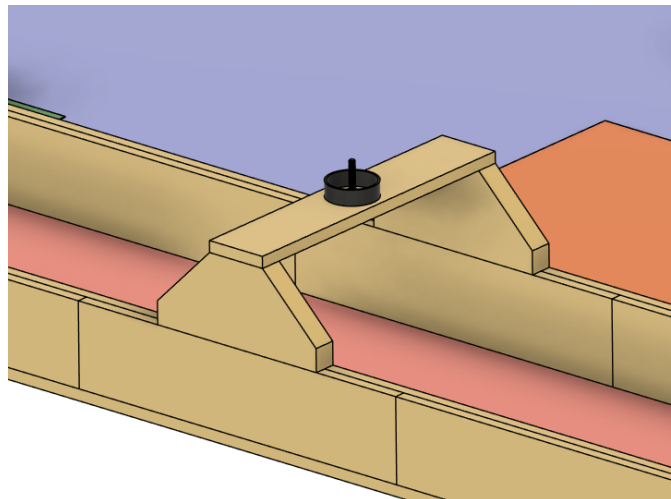

Figure 8: Calf
- 4.2.4.4. Aligned with the center of the court is a calf, represented by a carriage bolt, onto which the autonomous robot can place the calf rope to score points (see Figure 8).